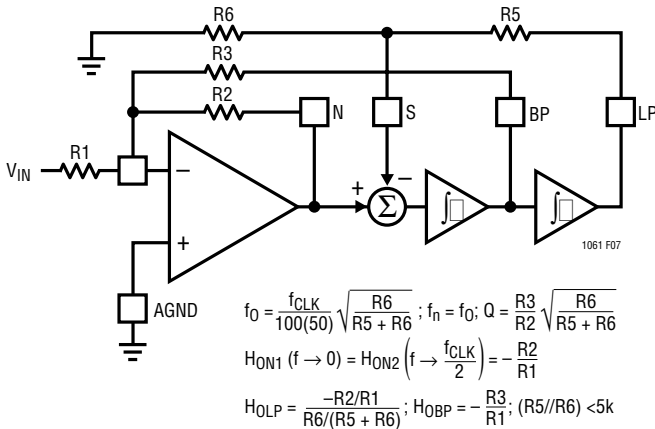
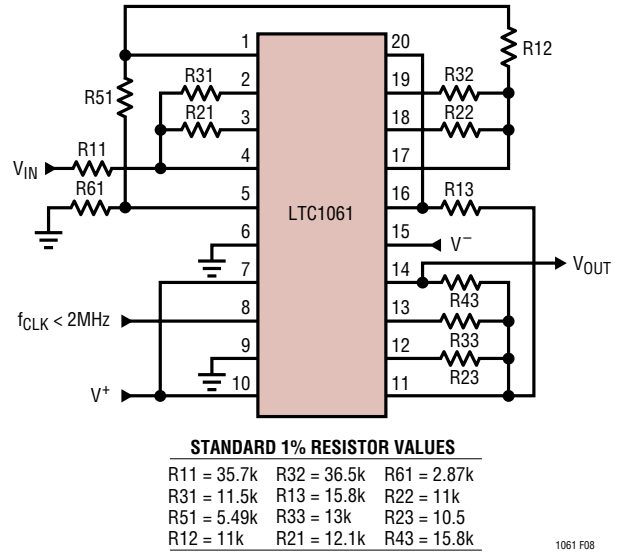

Figure 7. Mode 1b: 2nd Order Filter Providing Notch, Bandpass, Lowpass
Figure 8. 6th Order Chebyshev, Lowpass Filter Using 3 Different Modes of Operation for Speed Optimization
**2. Secondary Modes: Mode 1b** – It is derived from Mode 1. In Mode 1b, Figure 7, two additional resistors, R5 and R6, are added to attenuate the amount of voltage fed back from the lowpass output into the input of the SA (SB) switched capacitor summer. This allows the filter clock-to-center frequency ratio to be adjusted beyond 50:1 (or 100:1). Mode 1b still maintains the speed advantages of Mode 1. Figure 8 shows the 3 lowpass sections of the LTC1061 in cascade resulting in a Chebyshev lowpass filter. The side A of the IC is connected in Mode 1b to provide the first resonant frequency below the cutoff frequency of the filter. The practical ripple, obtained by using a non-A version of the LTC1061 and 1% standard resistor values, was 0.15dB. For this 6th order lowpass,